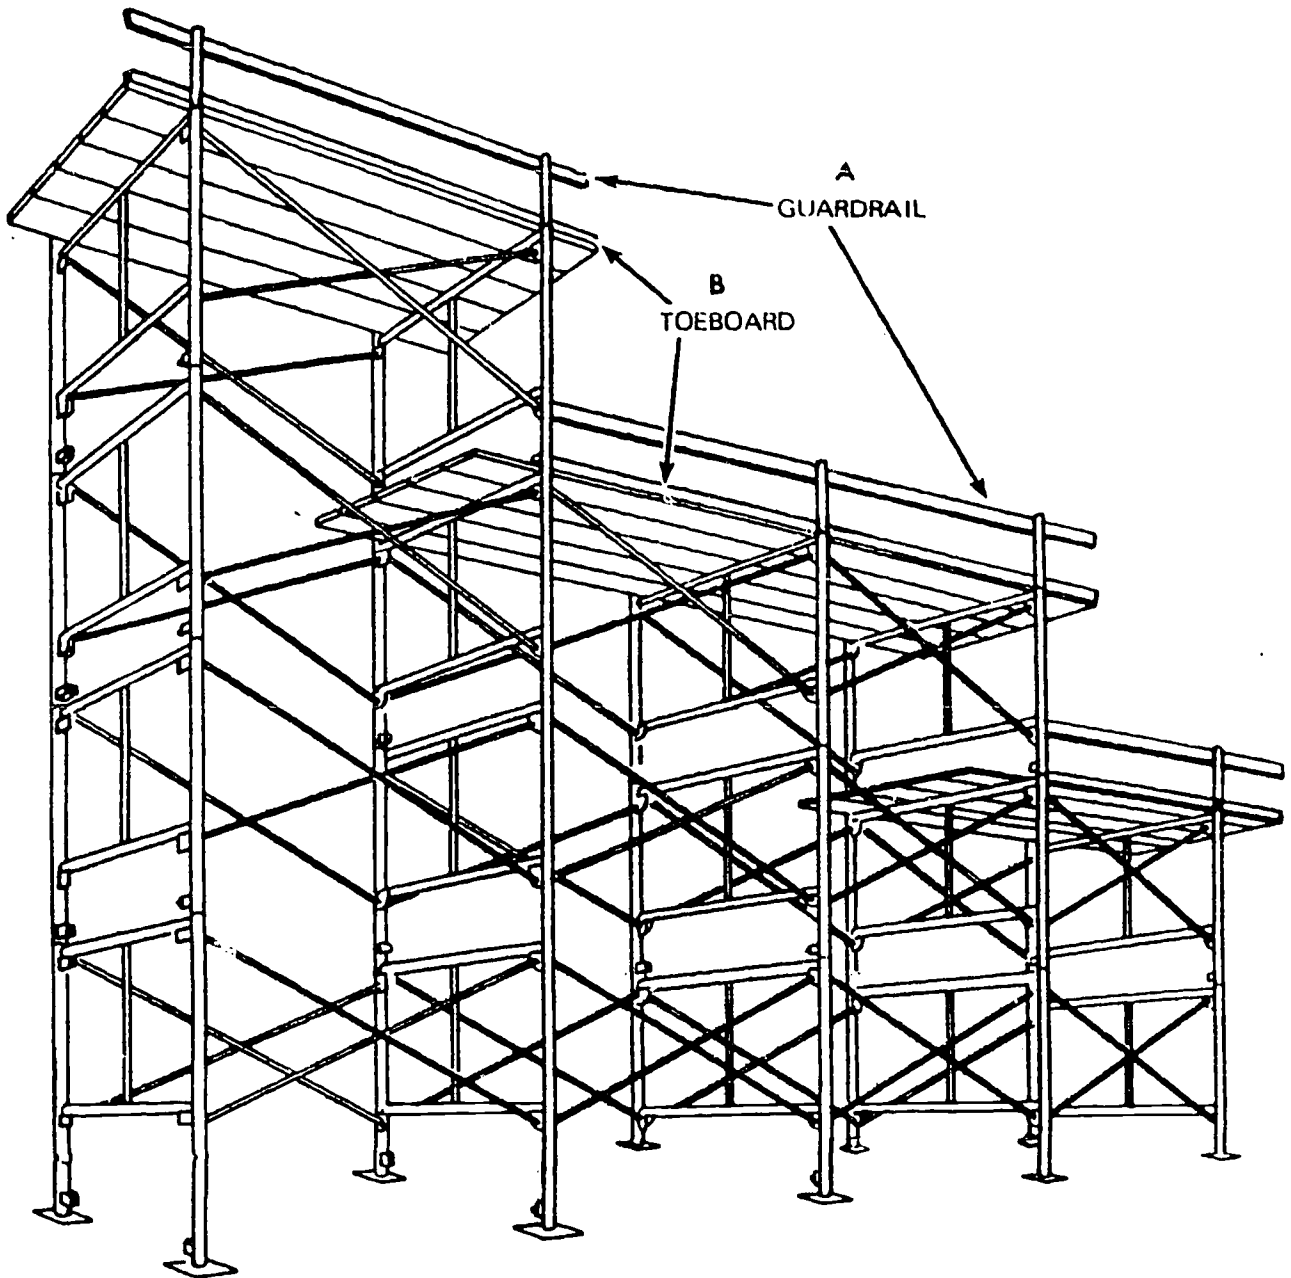
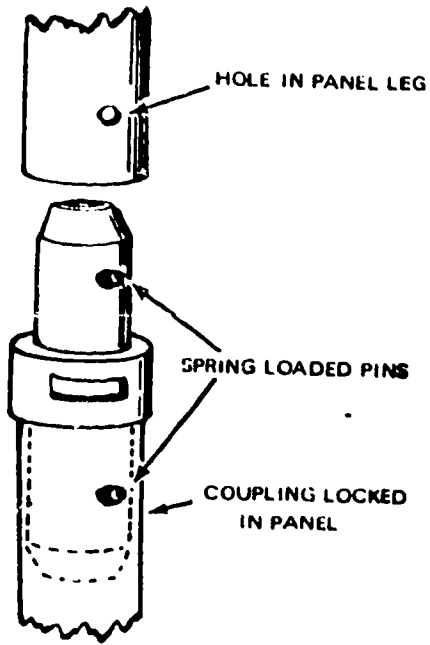
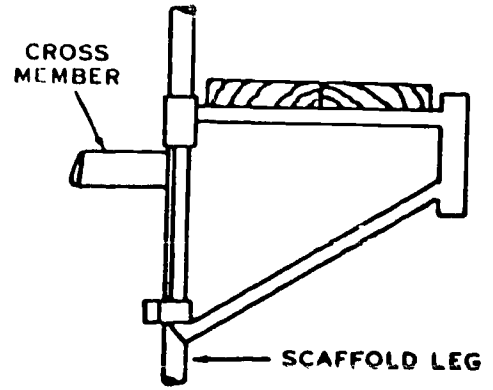
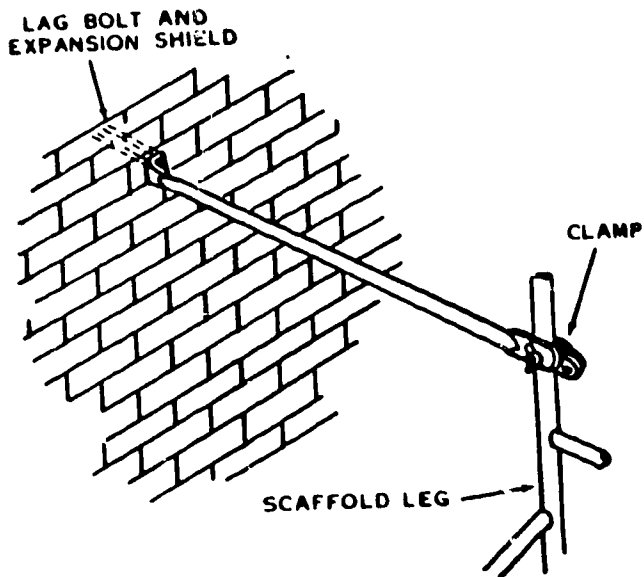

Figure 50. an Erected Scaffold
Figure 51. Coupling
Figure 53. Side Bracket
Figure 52. Building Tie-in
After the braces are attached, you have one basic unit, (5) additional units can be installed until you have a scaffold as long and as tall as you need. Figure 50 shows an erected scaffold. The upright legs of the scaffold are held securely by couplings. One type is shown in figure 51. Spring-loaded pins in the coupling automatically lock the sections together, (6) sectional steel scaffolding can be constructed as high as required, but scaffolding over three sections high must be secured to the structure. One method of fastening it to the structure is shown in figure 52. The top section must always be equipped with a guardrail and toe-board. The guardrail prevents workmen from falling and the toe-board keeps tools and materials from falling on other workmen below, (7) side brackets, as shown in figure 53 can be attached to the inside of the scaffold to support workmen. The scaffold can then be used to hold materials, (8) if the scaffold is to be used on a solid floor and frequent moving is necessary, a rolling tower can be constructed of the same scaffold sections by replacing the footing plates with locking casters. The height of the tower must not exceed four times the smallest base dimensions, and it must be equipped with a toeboard and a guardrail above the working platform.